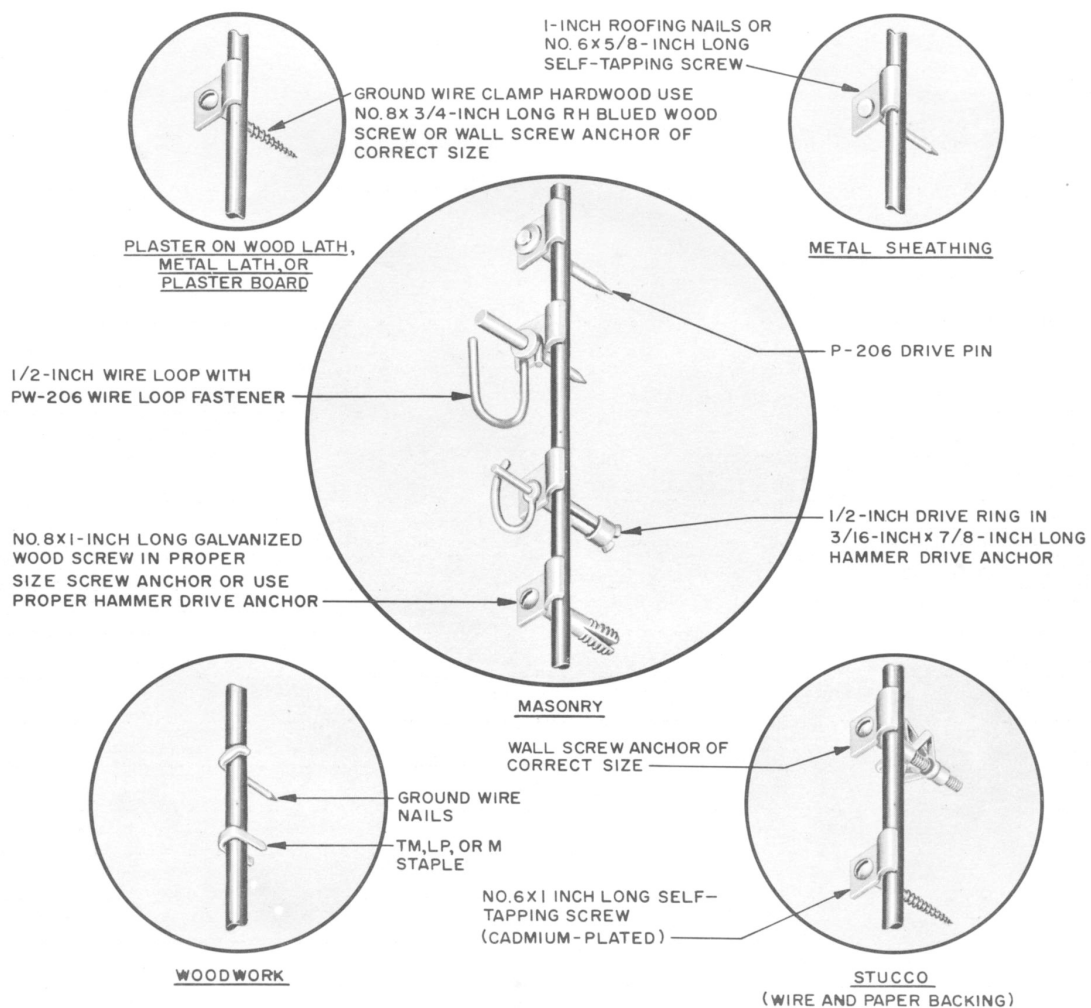

Fig. 19 — Fasteners for Ground Wire
5.01 Fasteners for ground wire and their use are shown in Fig. 19.